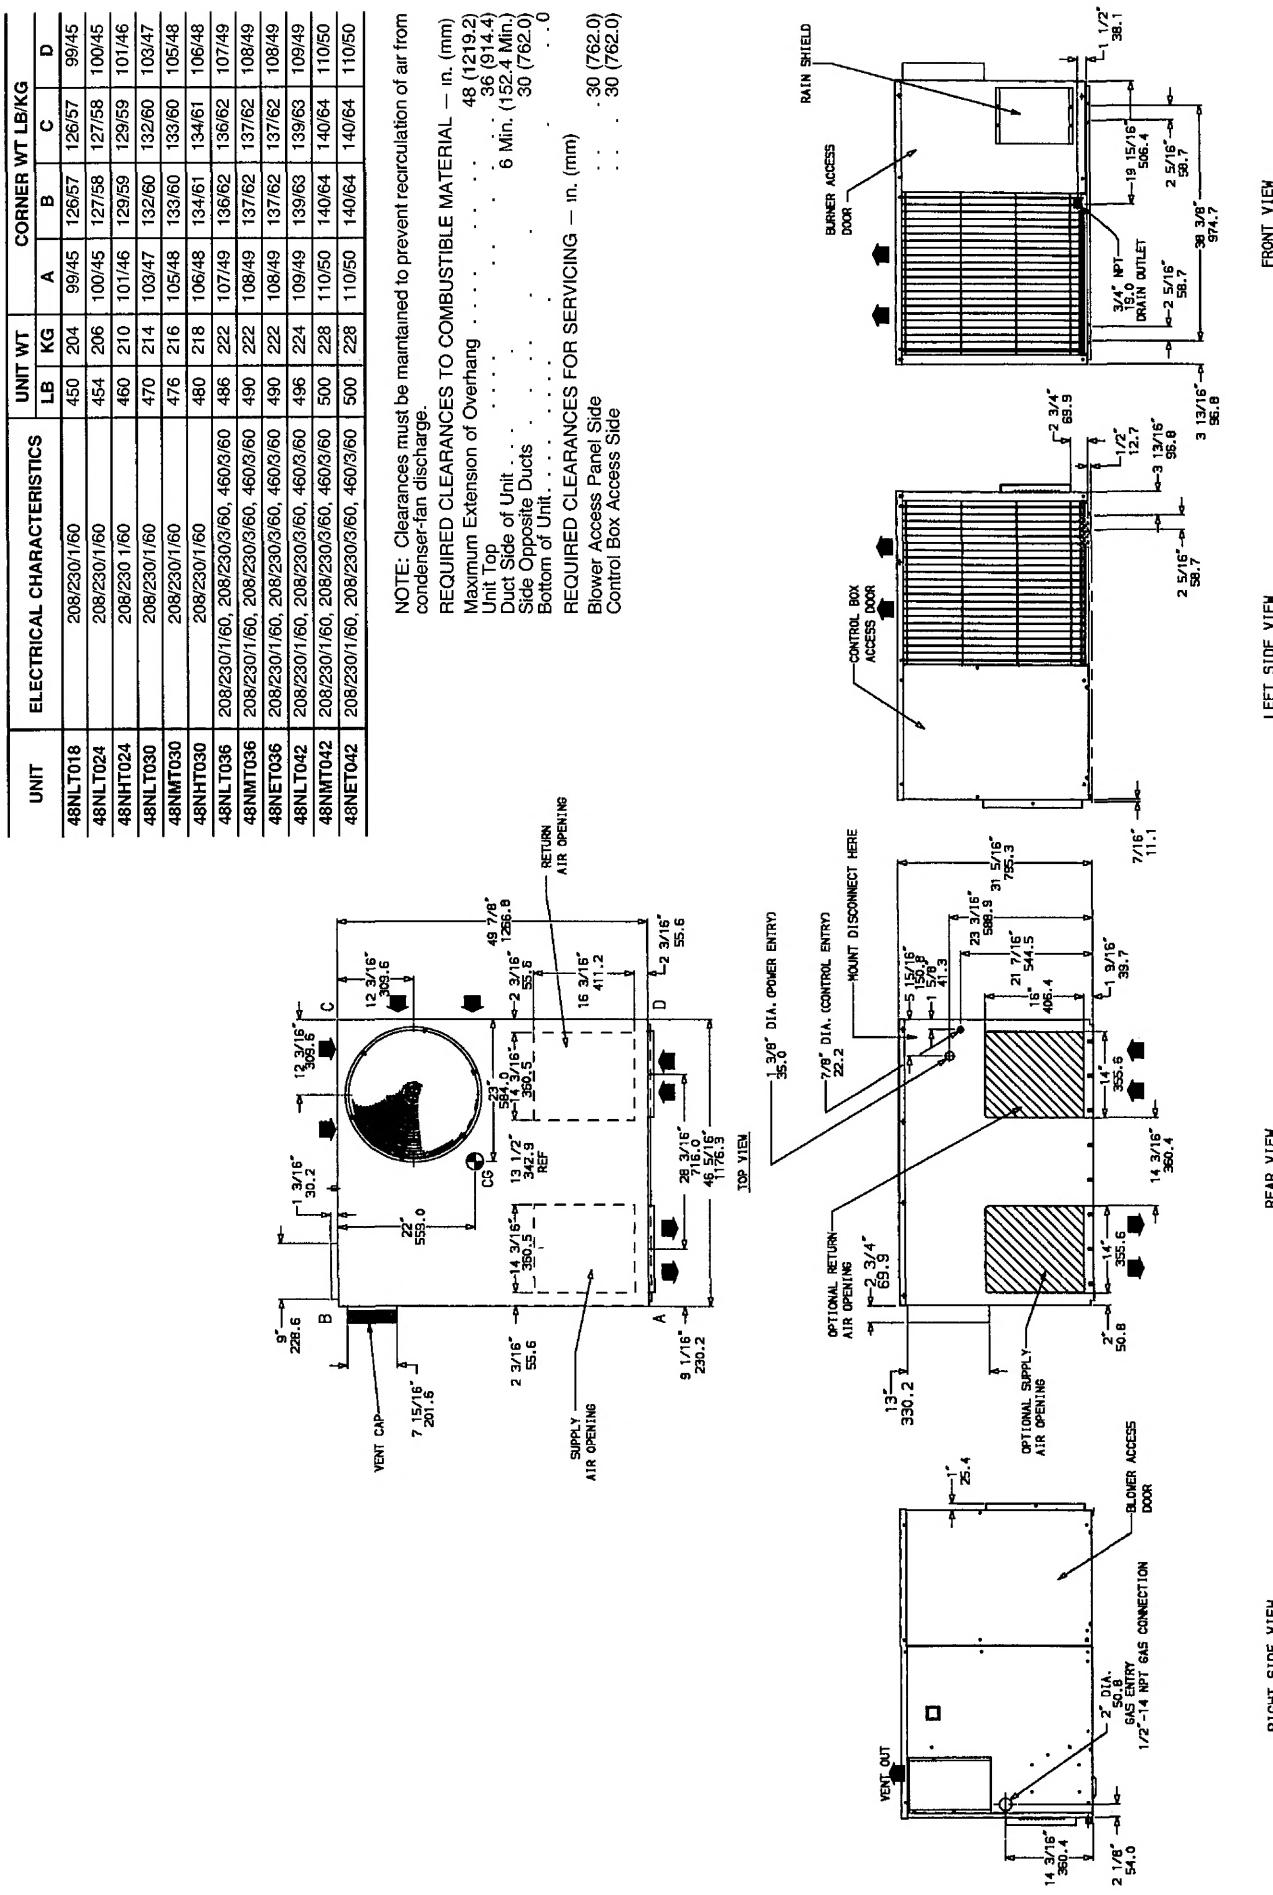

Fig. 2 – 48 Dimensional Drawing, Sizes NLT018 – NET042
Step 3 — Provide Clearances — The required minimum operating and service clearances are shown in Fig. 2 and 3. Adequate combustion, ventilation and condenser air must be provided.
The unit disposes of condensate water through a ¾-in. NPT drain fitting. See Fig. 2 and 3 for location.